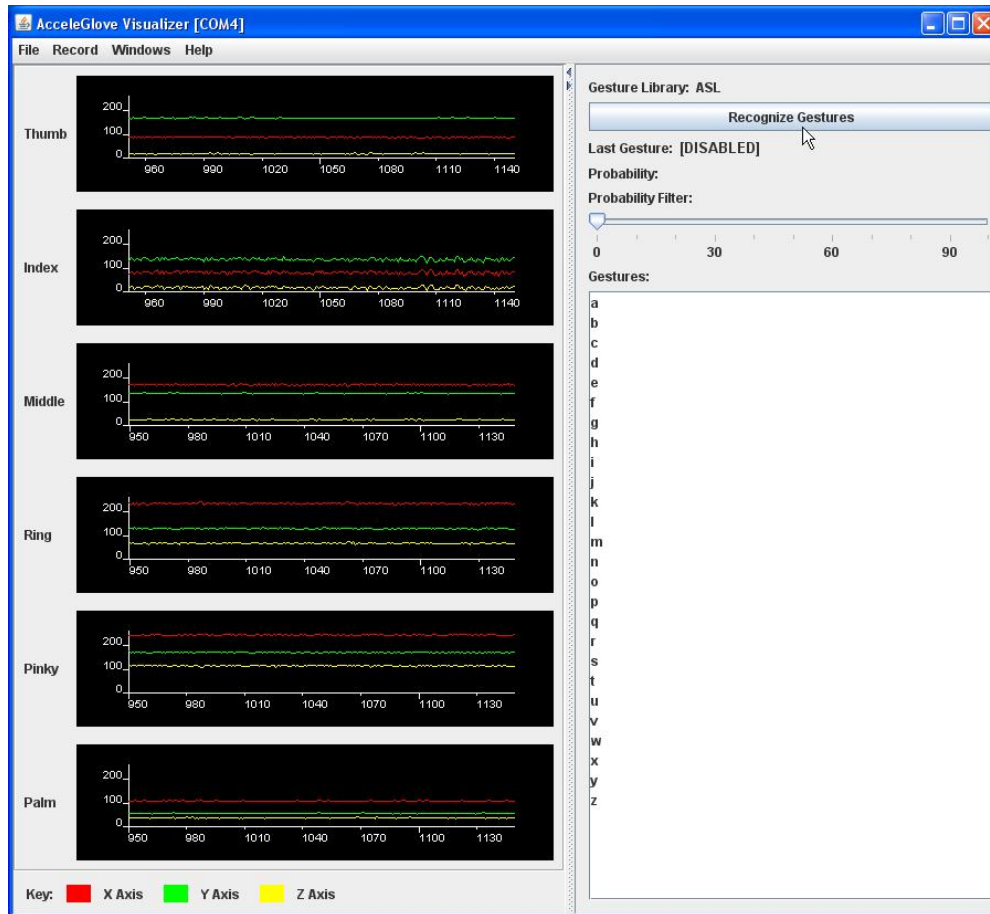

Figure 13 – Visualizer Main Screen
Step 2: From the Left Panel of the Main Screen (Figure 13), select Recognize Gesture.